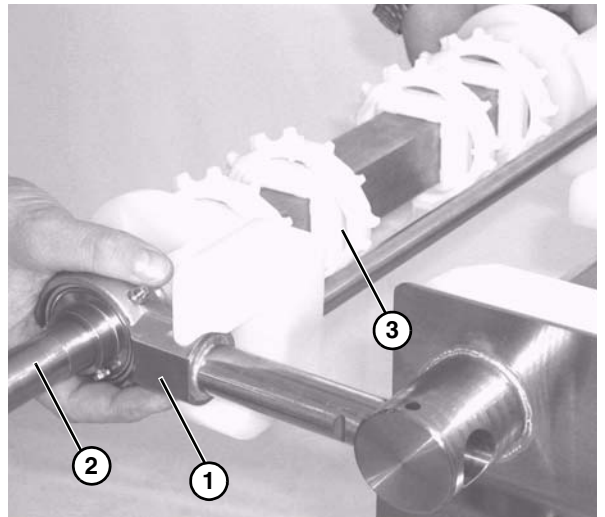

Figure 58
- Slide the drive tail assembly out of the take up blocks (**Figure 58**).
- Slide the motor support bracket (**Figure 58, item 1**) off the drive spindle (**Figure 58, item 2**).
- Remove the sprockets (**Figure 58, item 3**).